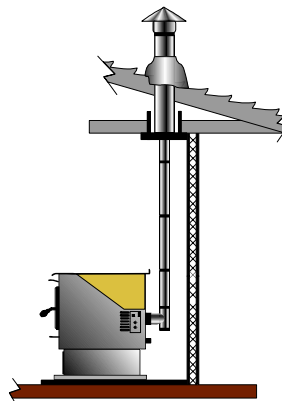

Figure 18
- 🔥 **VERTICAL, UP TO AN EXISTING CLASS A CHIMNEY OR MASONRY CHIMNEY**. An appropriately sized adapter will be needed when connecting onto either a Class A chimney or into a masonry chimney. NOTE: The connection into a masonry chimney must be airtight. Figures 18,19 and 21.